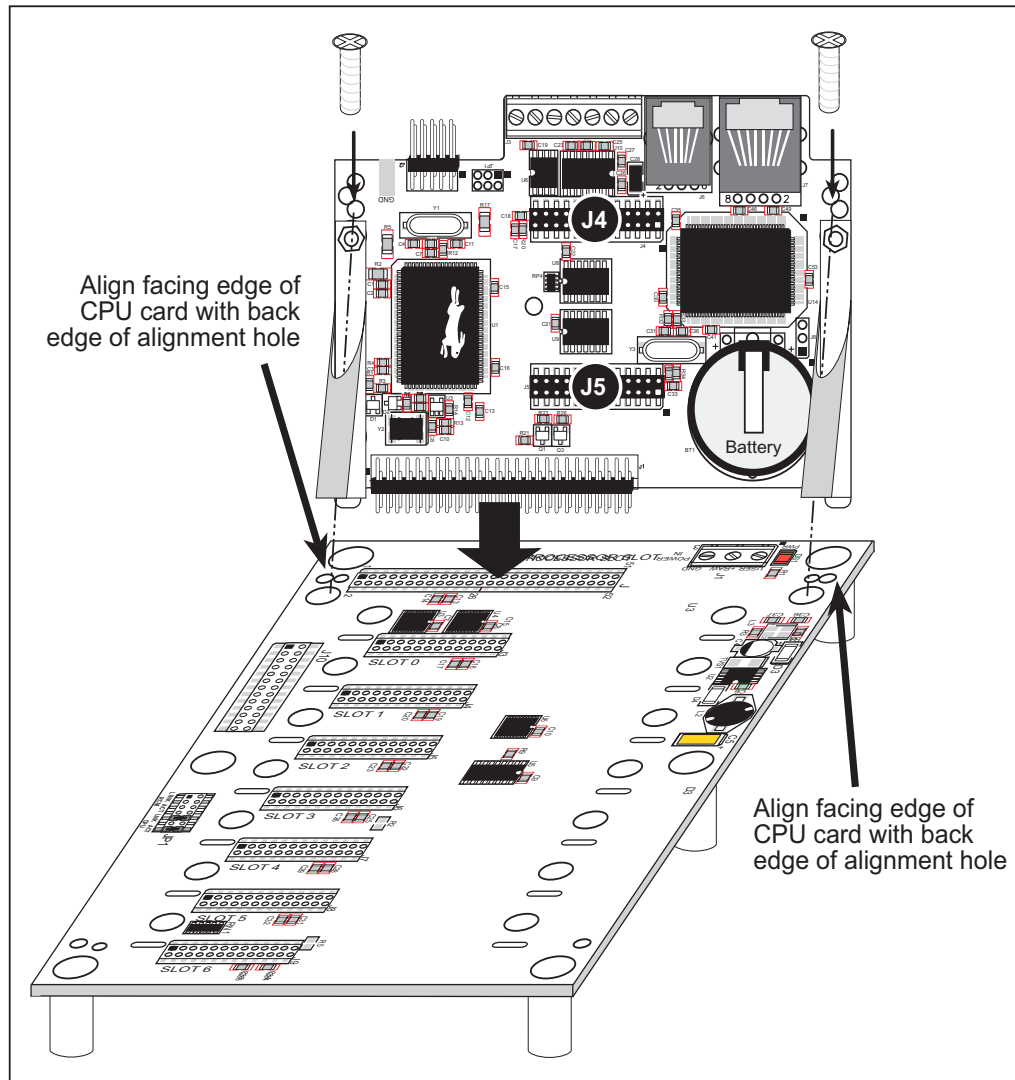

Figure 1. Attach the CPU Card to the Backplane
1. Orient the backplane with the **PROCESSOR SLOT** facing away from you as shown in Figure 1.
2. Position the CPU Card above the backplane as shown in Figure 1.
3. Carefully insert the CPU Card header into the **PROCESSOR SLOT** on the backplane and line up the facing edge of the CPU Card with the back edge of the alignment holes on the backplane as shown in Figure 1.